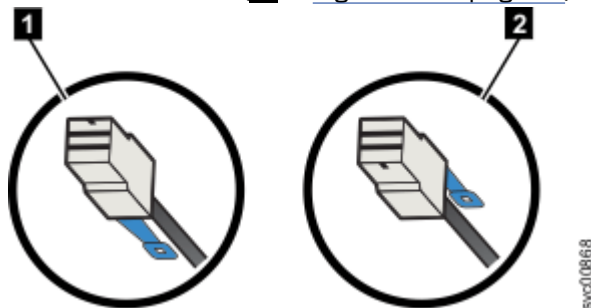

Figure 62. SAS cable connector orientation
When you insert SAS cables, make sure the connector (Figure 62 on page 94) is oriented correctly.
- For FlashSystem control enclosure node canisters and 2U expansion enclosures, the blue pull tab must be below the cable (**1** in Figure 62 on page 94).
- For 5U expansion enclosure canisters, the blue pull tab must be above the connector (**2** in Figure 62 on page 94).